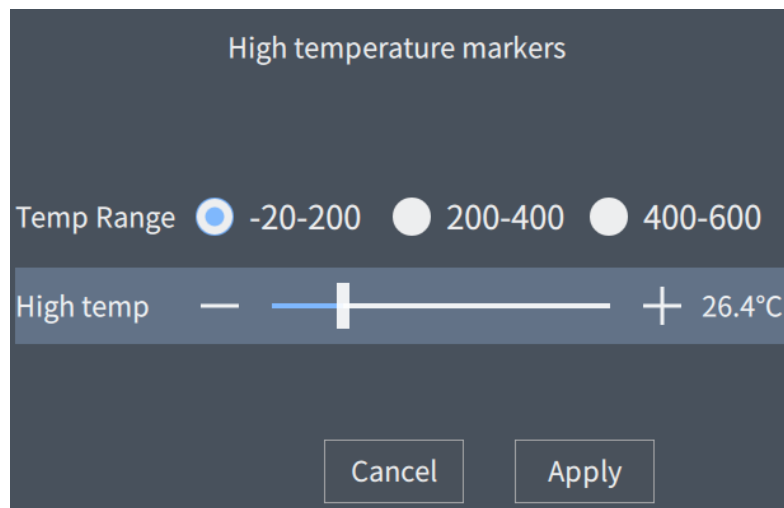

Figure 4.10 Setting the temperature value
Step 3: Touch and click     or switch the physical button to    , press the physical "OK" key to open the temperature threshold filling interface (as shown in Figure 4.10);